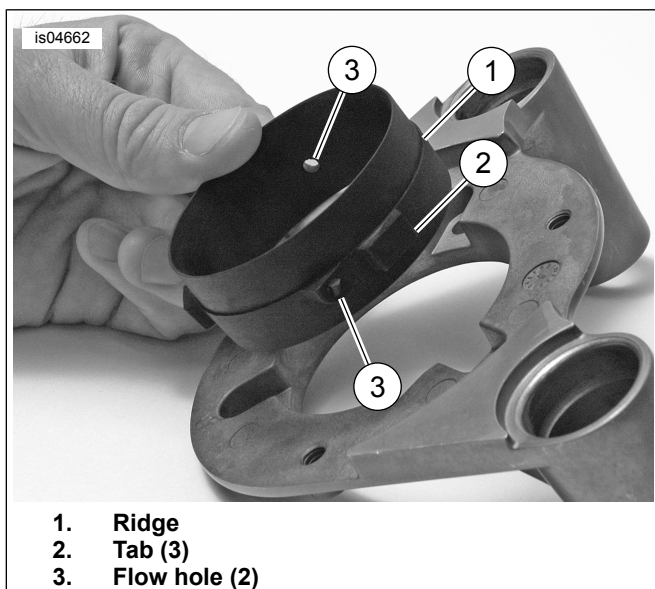
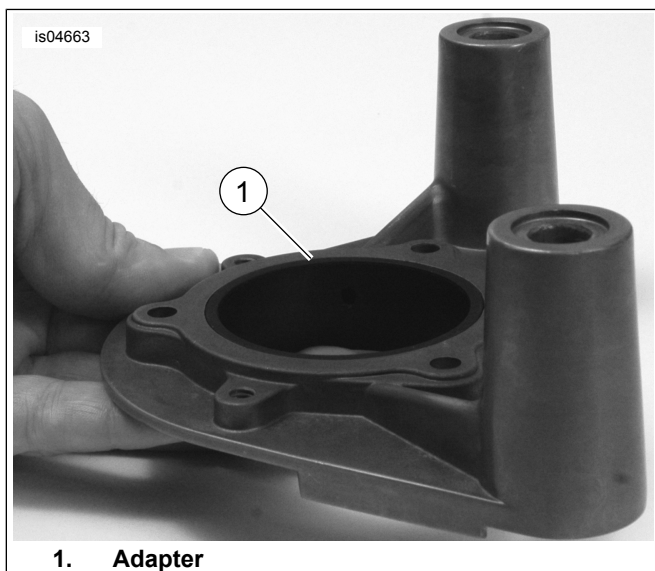
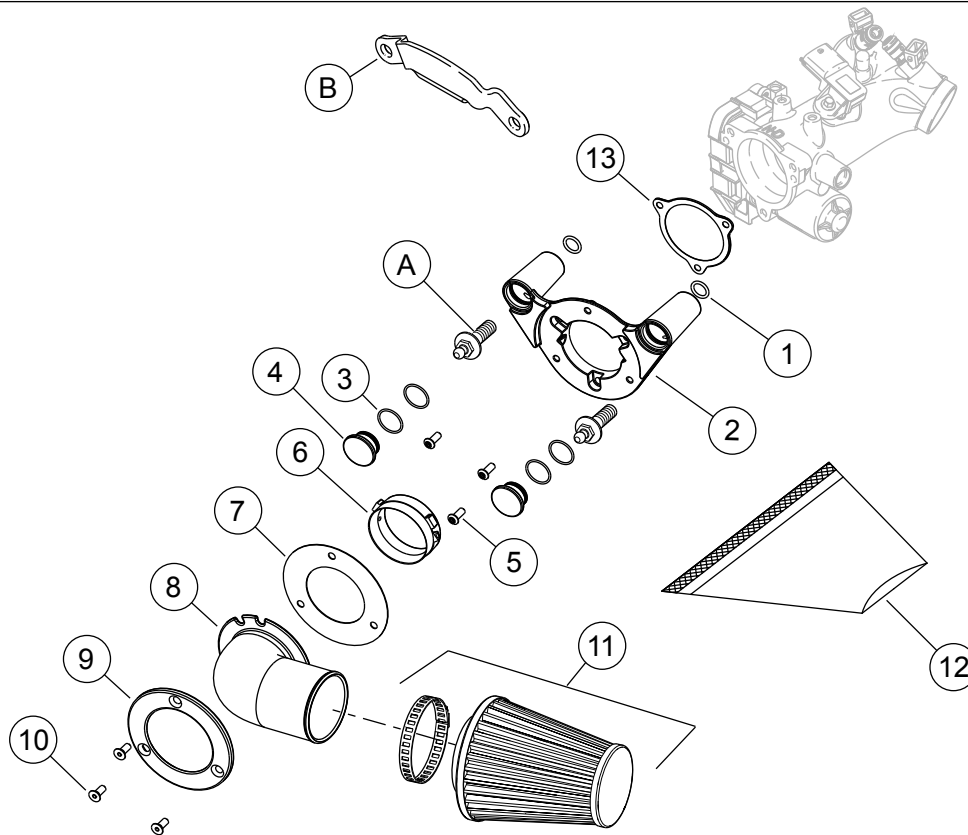

Figure 2. 50 mm Adapter
Figure 3. Adapter Positioned Correctly in Backplate
Figure 4. Service Parts: Screamin' Eagle "Heavy Breather - Elite" Performance Air Cleaner Kit
See Figure 4 and Table 1.
1. Remove the air cleaner backplate following the instructions in the service manual. Retain the two breather screws (A) removed from the backplate (see Figure 4). The remaining parts can be discarded.
2. See Figure 4. Remove and discard support induction module bracket (B).
9. **For models equipped with 50 mm induction module:** See Figure 2. The outside of the outer half of the plastic adapter (item 6 in Figure 4) is marked "This side out - 50 mm only." The inner half is indexed with three tabs (2) and two breather flow holes (3). Insert the indexed side into the backplate, aligning the tabs and flow holes with the flow holes in the backplate. Check that the adapter is fully seated and oriented correctly with the markings visible. See Figure 3. When installed correctly, the adapter is flush on the induction module side of the backplate. **For models equipped with 58 mm induction module:** Discard adapter.